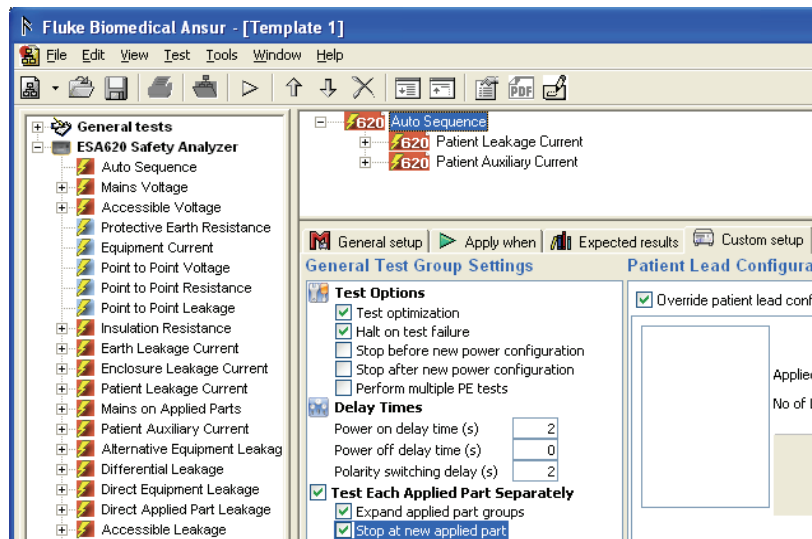

Figure 4-9. Configuring Applied Part Testing
3. Click the **Test Each Applied Part Separately**, **Expand applied part groups**, and **Stop at new applied part** checkboxes in the General Test Group Settings area as shown in Figure 4-9.